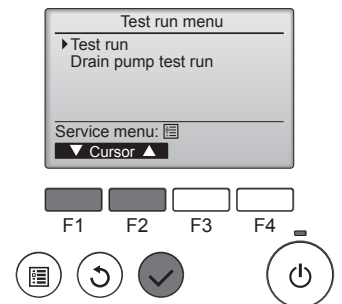

Fig. 9-3
- Select "Test run" from the Test run menu, and press the [SELECT] button. (Fig. 9-3)